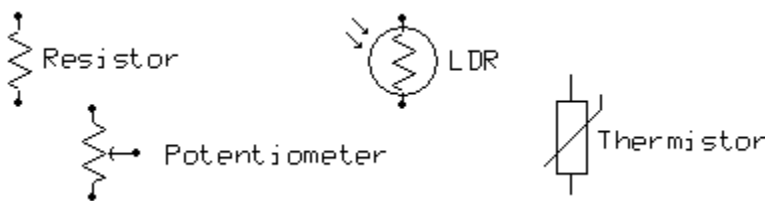

figure 12
**Figure 12** shows the most common symbols for the various types of resistors, which are used when drawing electronic schematics.